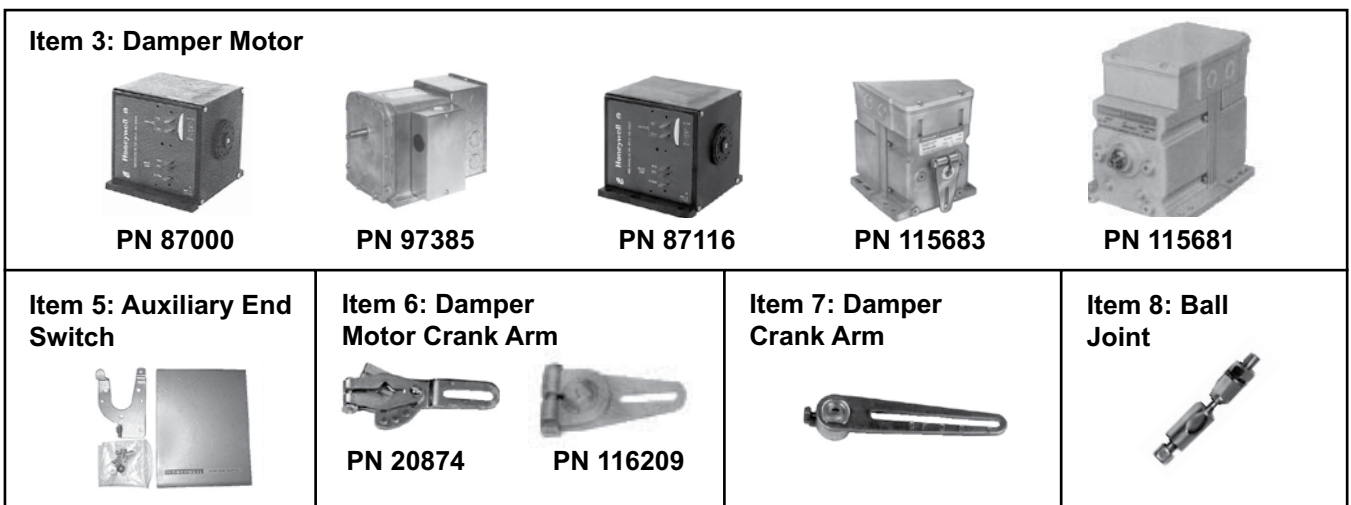

Figure 16. Damper Components—Units Manufactured *Before* AUG 2003 (Refer to Table 24)
- Damper components for units manufactured *before* SEP 2003 are listed in Table 24 and shown in Figure 16.